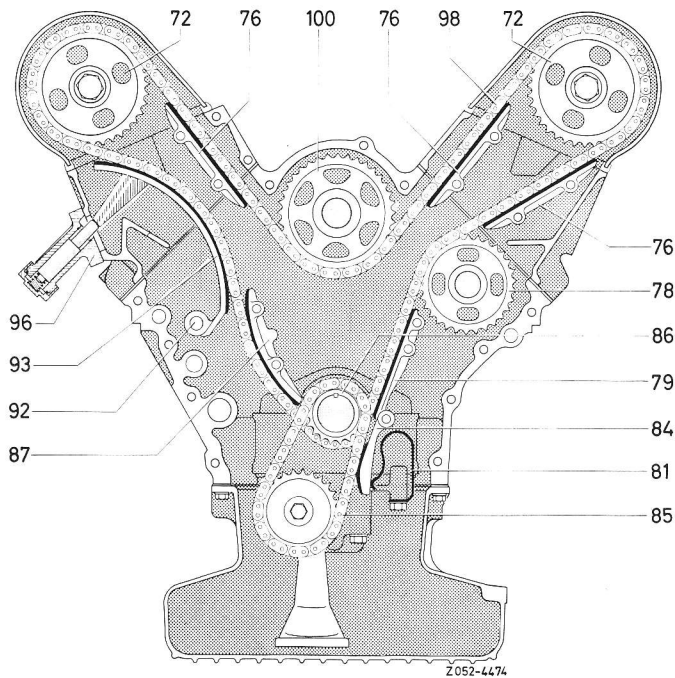

Fig. 1
- 3 Remove roller chain from intermediate gear (78) (Fig. 1). Pull intermediate gear forward and remove from bearing in cylinder crankcase by slightly canting in upward direction.